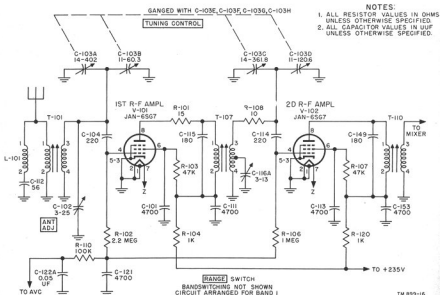

Figure 14. R-f amplifier stages, simplified schematic diagram.
35. First R-f Amplifier Stage V-101 (fig. 14)
36. Second R-f Amplifier Stage V-102 (fig. 14)